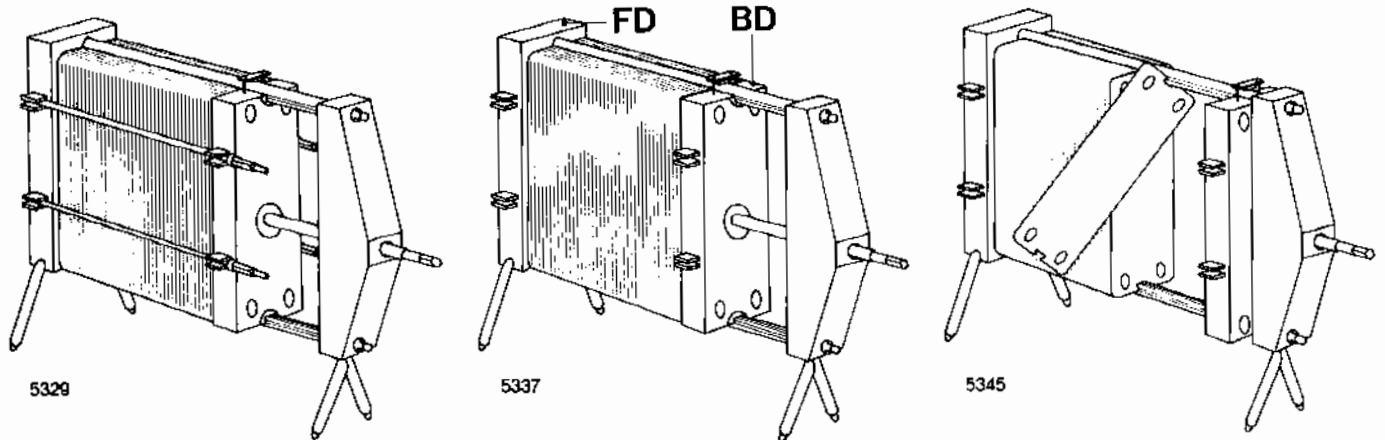

Fig. 22
Remove securing bolts, if any - then loosen the spindle. When using frame types with two spindles, loosen the two spindles uniformly (max. difference 25 mm) - then push the follower (BD) towards the column (fig. 22).